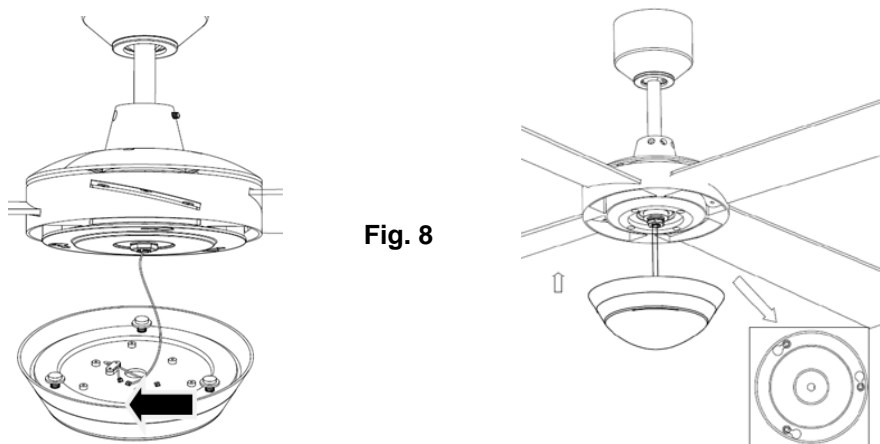

Fig. 8
6. Attach the LED light kit to the lamp base and connect wires to the LED light kit via the quick connectors. Insert the housing assembly screws into the larger ends of key hole slots and turn the LED light kit body clockwise until the housing assembly screws are firmly situated in the narrow ends of the keyhole slots. **Fig. 8**